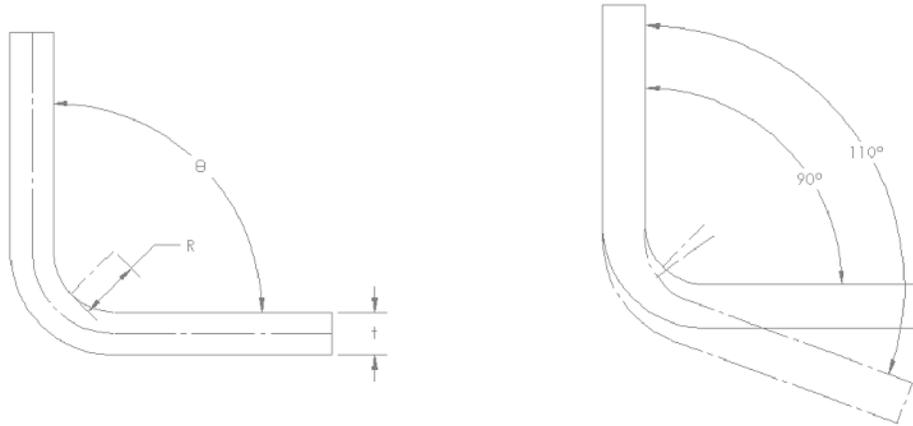

Figure 2: Illustration of key dimensions for bending and representation of sample before and after springback.
Bending Basics: Three key dimensions describe sheet and wire bending: the thickness or diameter (t), the bend radius (R), and the bend angle (θ) as described in Figure 2. The bendability of a material is usually expressed as a normalized value of R/t at a specific angle and provided by the manufacturer as a general material property rather than certifying each thickness or diameter individually. The minimum R/t value for a free bend can be approximated from tensile data from the following empirical relationship for homogeneous, ductile, isotropic materials in plane strain¹.